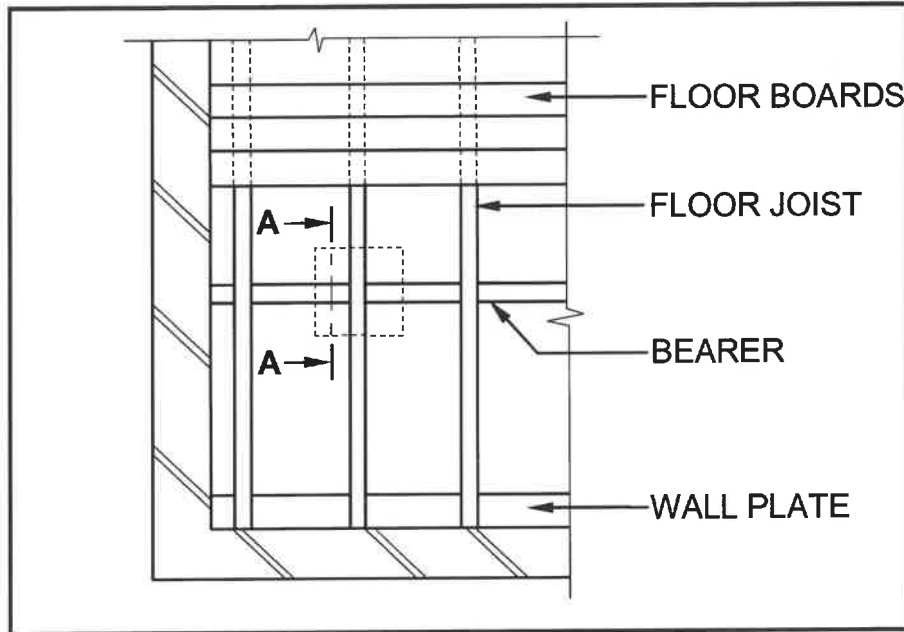

FIGURE 6.7
6.7 FIGURE 6.7 shows part of the top view of a ground-level suspended timber floor with section line A-A.